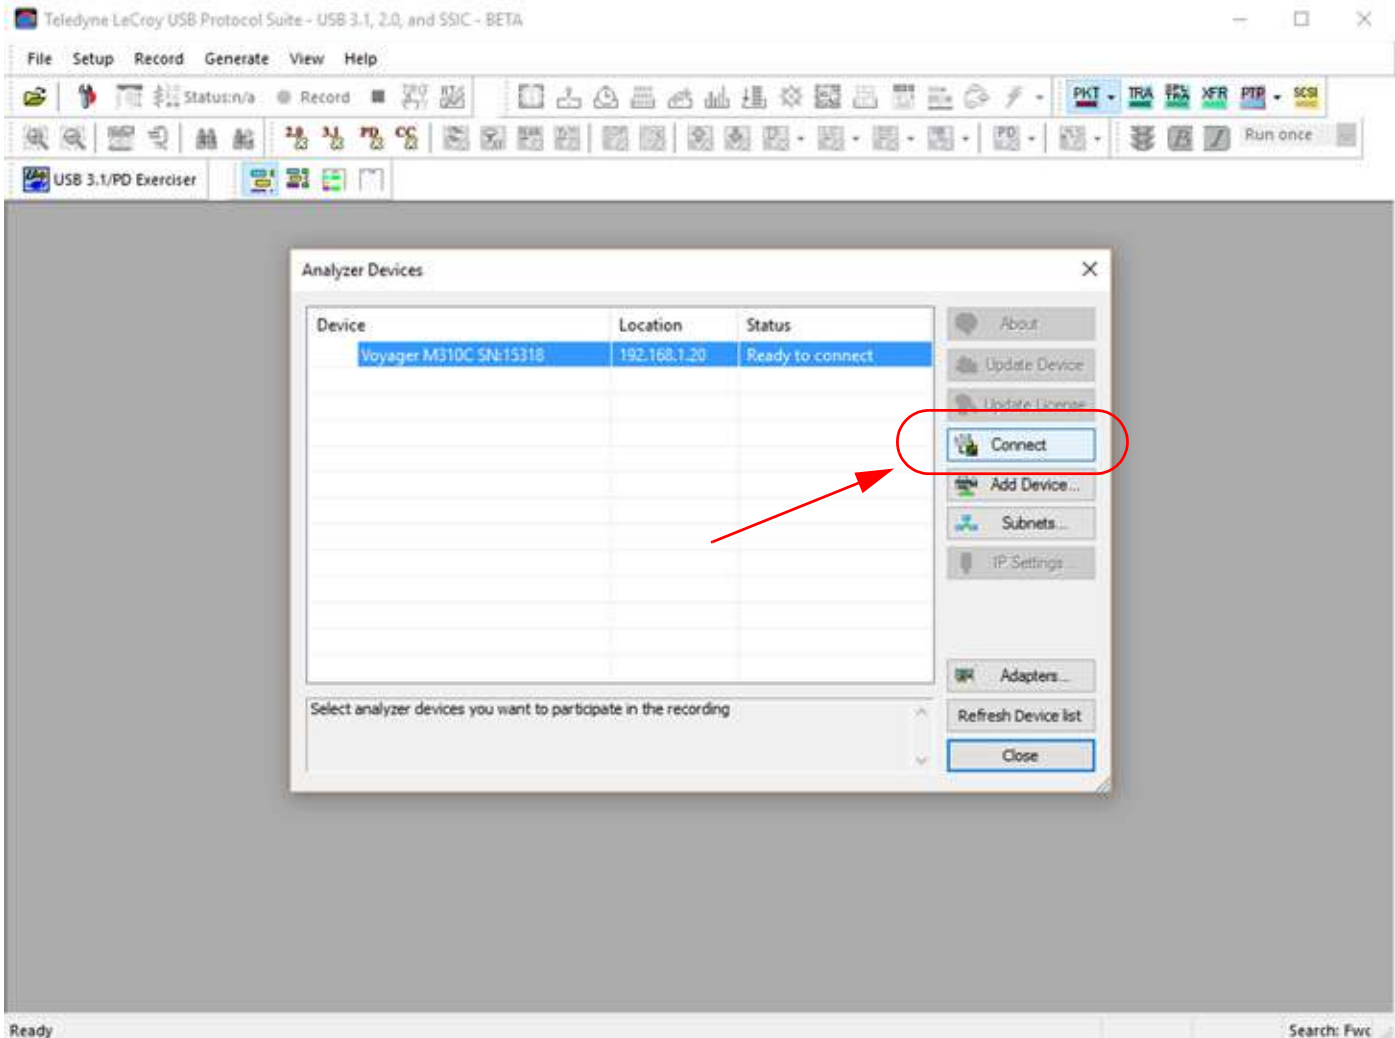

Figure 3.30: USB Analyzer with New IP Address Connected Over an Ethernet bus
4. Select "Setup -> All Connected Devices" and then select the analyzer you want to connect to. The Connect tab will be highlighted. See Figure 3.30.